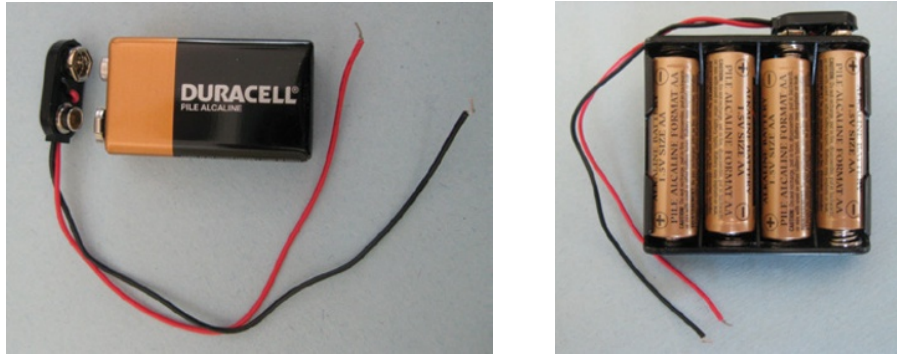

Figure 2-7: Prepare your batteries for use in a solderless breadboard.
✓ **Attach a battery clip to a 9-volt battery.** The clip provides leads so you can connect the 9-volt battery to your solderless breadboard. The leads are color-coded: Red indicates the positive battery terminal and black indicates the negative battery terminal. (See Figure 2-7.)
- ✓ **Insert the four AA batteries into the four-battery holder, observing the polarity markers.** The battery holder is wired to connect the four batteries end-to-end, creating a battery pack that supplies $4 \times 1.5 = 6$ volts. If your four-battery holder does not have leads, attach a battery clip to the snap connectors on the holder. (See Figure 2-7.)